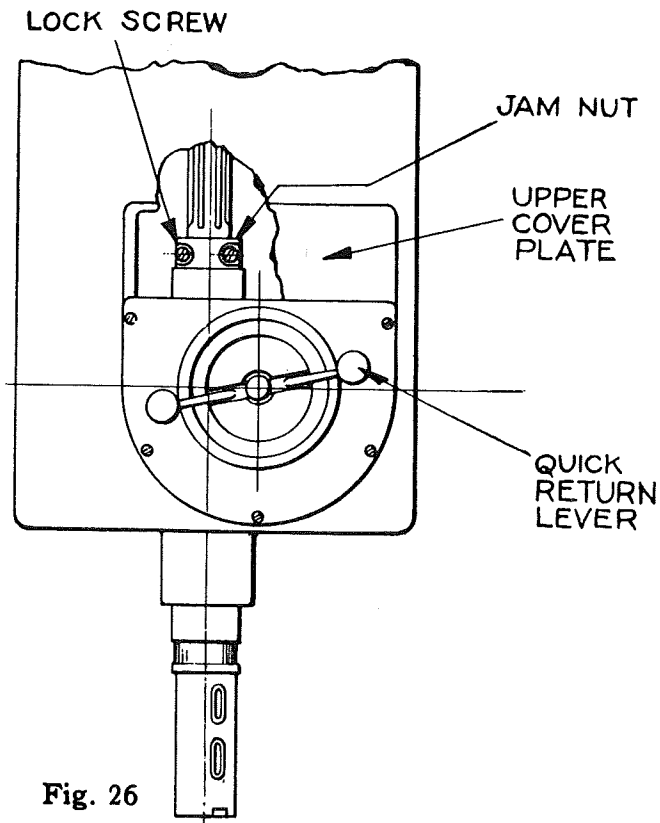

Fig. 26
3. Remove the upper plate, Fig. 26.
4. Raise or lower the spindle until the jam nut appears in the opening. Fig. 26.